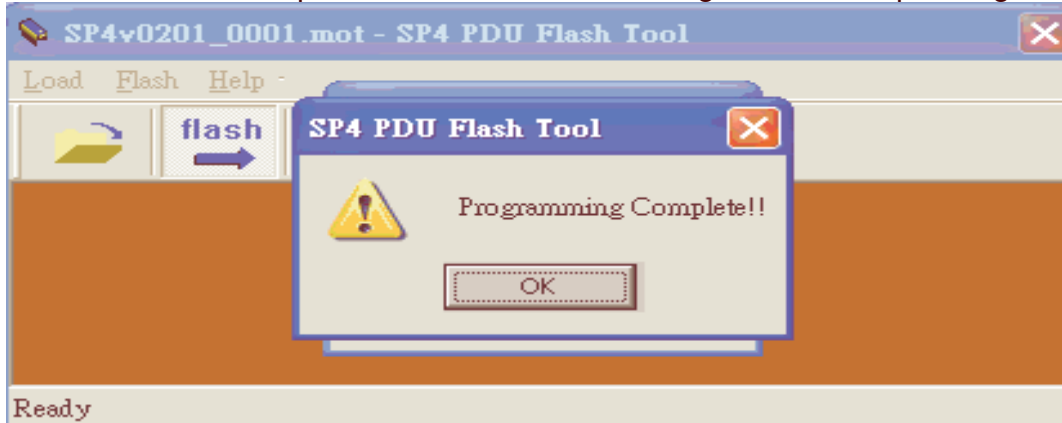

Figure 6. Programming complete window.
Step 7. Just wait for a while. When complete percentage reaches 100%, it means the flash process is done. The message will show up as Figure 6.